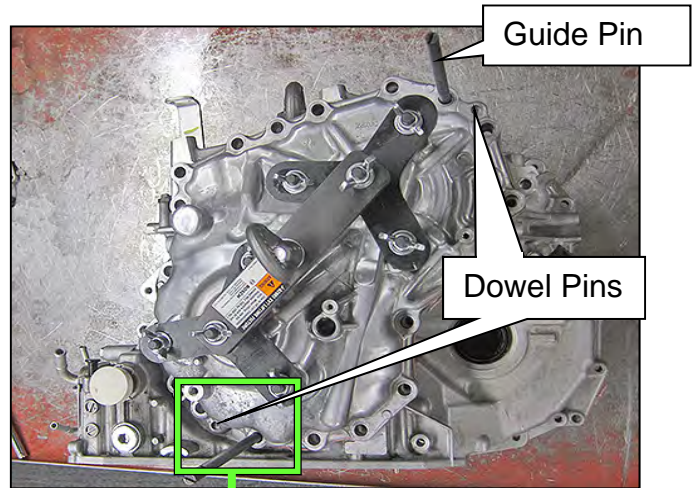
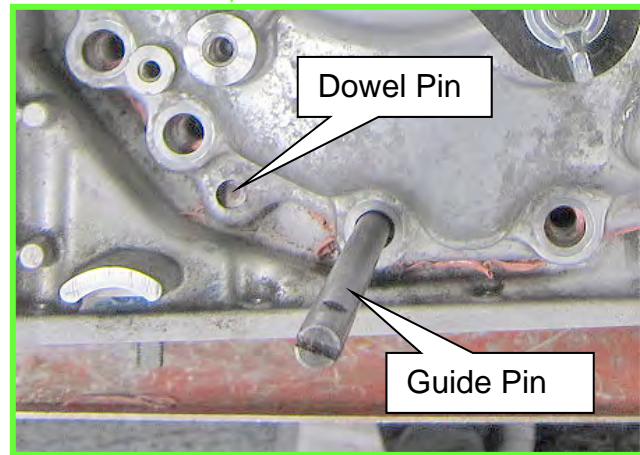

Figure 78
Figure 79
59. Install the two CVT Assembly Guide Pins (J-51959 - Guide Pins) as shown in Figure 78 and Figure 79.